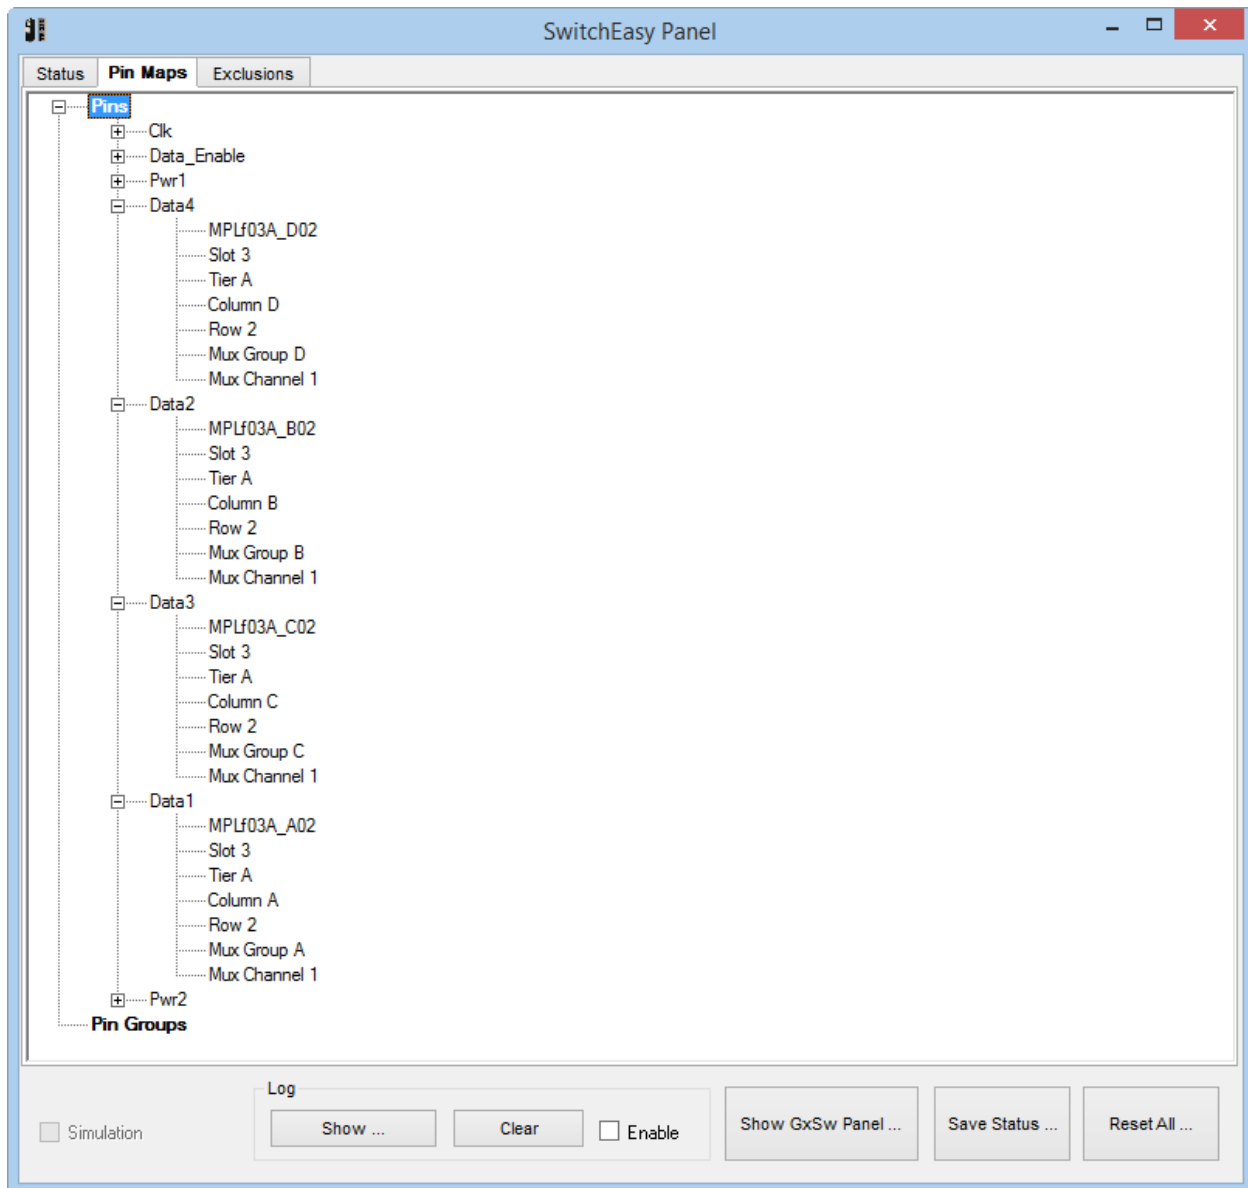

Figure 4-2: Switch Easy Panel Pin Maps Page
Pin Maps (Tree): The tree view shows currently mapped pins. Each mapped name node expands to show the physical location and description of the pin. For example, in Figure 4-2, the **Data 4** node is expanded to show its location at Slot 3, Tier A, Column D, and Row 2. Mux group (D) and Mux Channel (1) are also displayed to provide the user more information about the physical pin.